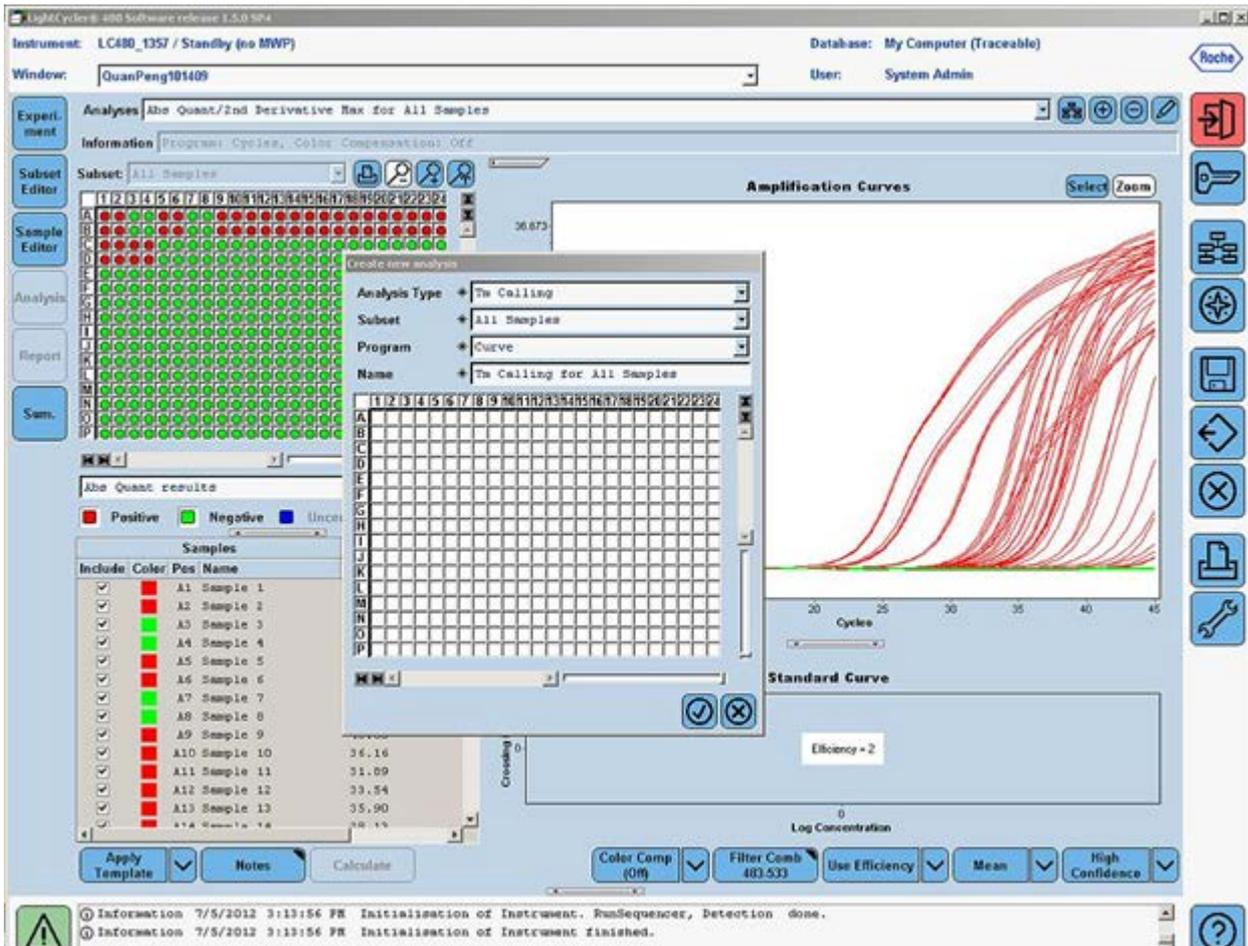

Figure 12. Setting up the melt-curve analysis.
- To proceed with the melt curve analysis, click the  button located on the right of the Analyses line at the top of the window. The Create new analysis dialog box will open (Figure 12). Select the "Tm calling" for the "Analysis Type." Then click  to confirm the selection.